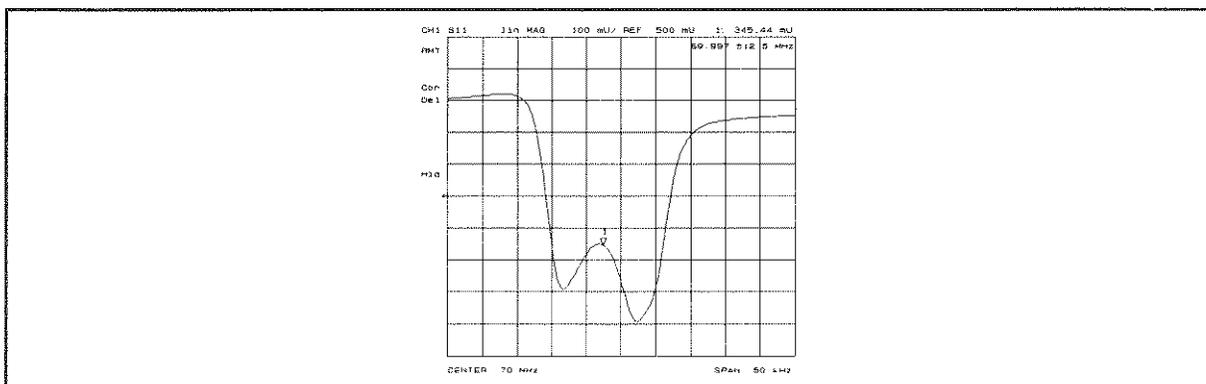

Figure 6-15. Linear Magnitude Format
**LIN MAG** (LINM) displays the linear magnitude format (Figure 6-15). This is a Cartesian format used for unitless measurements such as reflection coefficient magnitude  $\rho$  or transmission coefficient magnitude  $\tau$ , and for linear measurement units. It is used for display of conversion parameters.